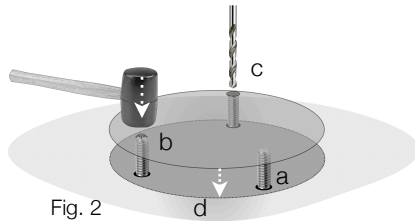

Fig. 2
3. Centre the MSR circular heat reflector (provided with your stove) over the bolts (Fig. 2/a)